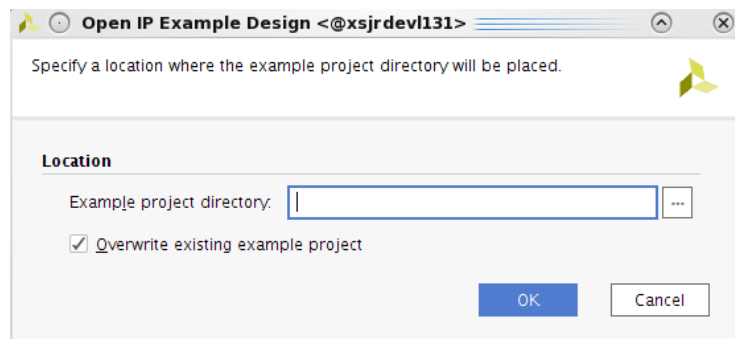

Figure 5-8: Example Project Directory
9. Choose **Example project directory** (Figure 5-8) and click **OK**.